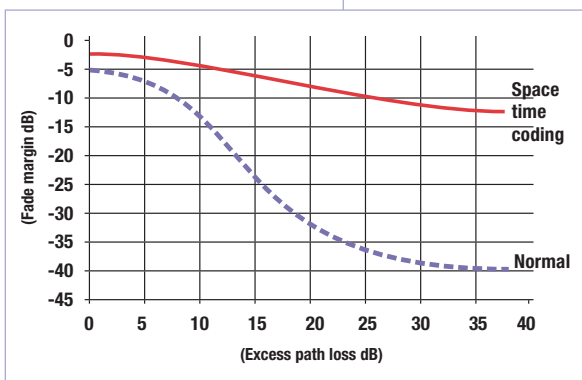

Figure 1: Conventional systems require a 40dB fade margin to operate successfully in paths that require only 10dB fade margin for multi-beam space time coding.
**Fading** In non-line-of-sight paths, multipath fading is significantly accentuated. Extensive testing has shown that the graph in Figure 1 applies. Using multi-beam space time coding, Orthogon Systems is the first vendor of 5.8 GHz products to address this problem. Figure 1 shows that, for 99.99% link availability, a conventional system requires 40 dB fade margin for NLOS paths. With space time coding, this requirement is reduced to just 10 dB, giving a performance benefit of 30dB. Another way of viewing this, is given that only 10 dB is available for fade margin, a conventional system-deployed NLOS will only achieve 90% link availability while the Orthogon space time coded system would achieve 99.99% link availability.